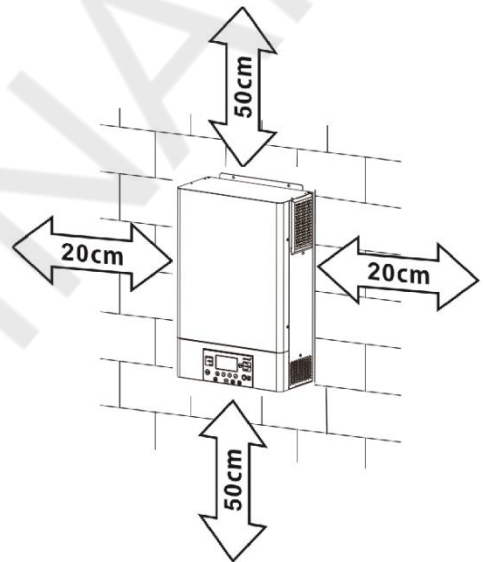

Fig. 4: Minimum distance to other objects
- Ensure a minimum distance to other objects and surfaces as shown in **Fig. 4** guarantee sufficient heat dissipation and to have enough space for removing wires.